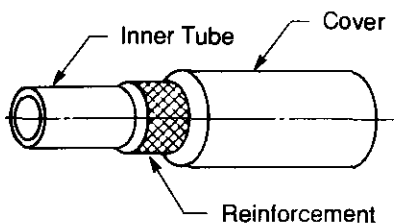

Figure 19. Hose Section
Whenever a connection between moving parts is necessary, a flexible hose is usually the answer. They are also used in some hydraulic systems to reduce the effects of vibration and hydraulic shock. The typical industrial hose consists of (1) an inner tube for conducting the fluid, (2) a reinforcement for the inner tube, and (3) a cover layer to protect the reinforcement. All three are bonded together, see Figure 19.